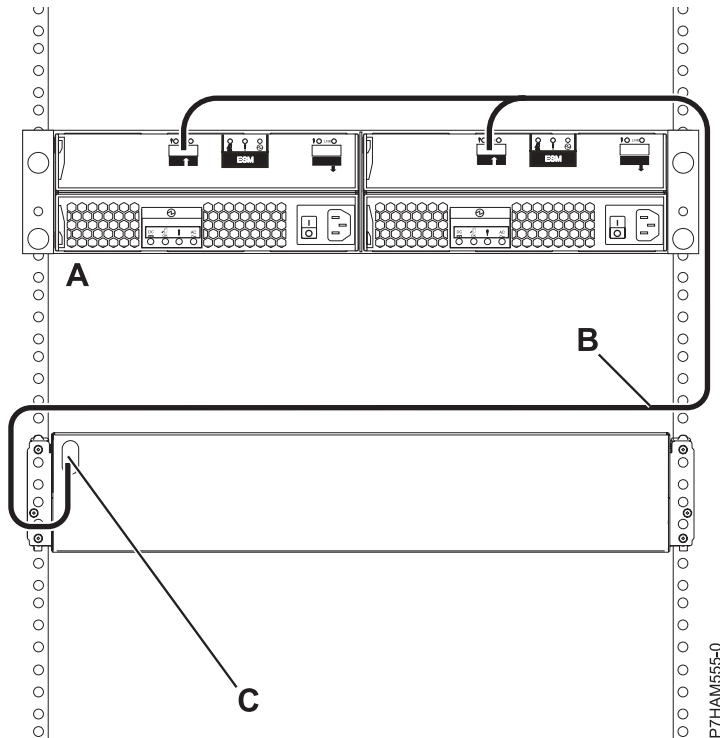

Figure 32. Connection of one 58/86 disk drive enclosure by using a YI cable to a system with support for a single SAS drawer
8. Perform the connection of one 58/86 disk drive enclosure (A) by using a YI cable (B) to a system with support for a single SAS drawer (C) as shown in Figure 32 on page 62.